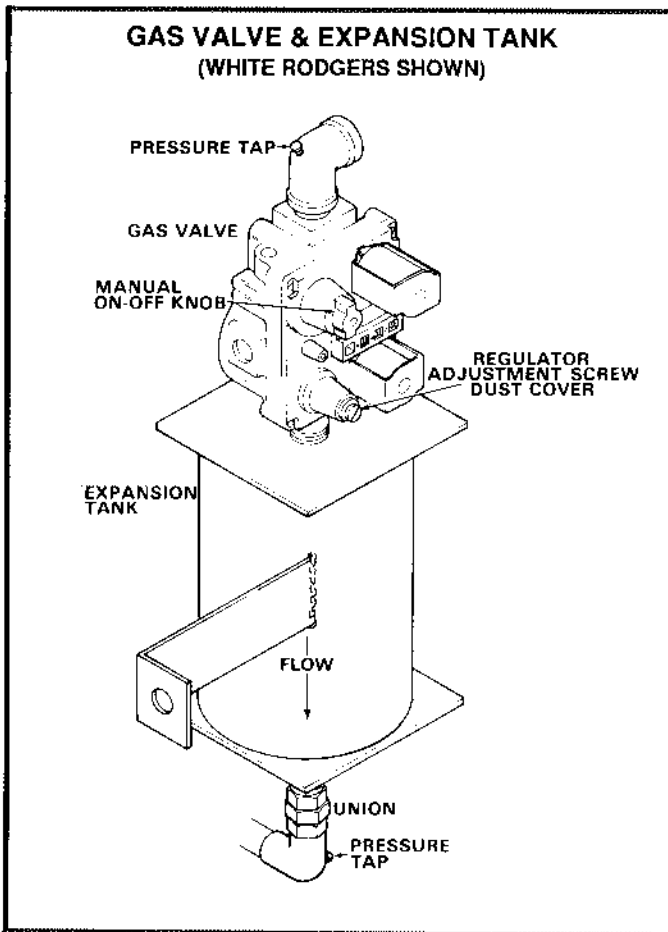

FIGURE 9
**D-Gas Valve & Expansion Tank (Figure 9)**
The gas valves used on G14 series units have various opening times. All gas valves are internally redundant to assure safety shutoff. An update kit to regulate manifold pressure is available for early produced units. See Service and Application notes for manifold pressure values for specific units. If replacement of the gas valve is needed, the valve must be replaced with the same type of valve. For example, replace a White Rodgers (as shown in figure 9) with a White Rodgers valve.